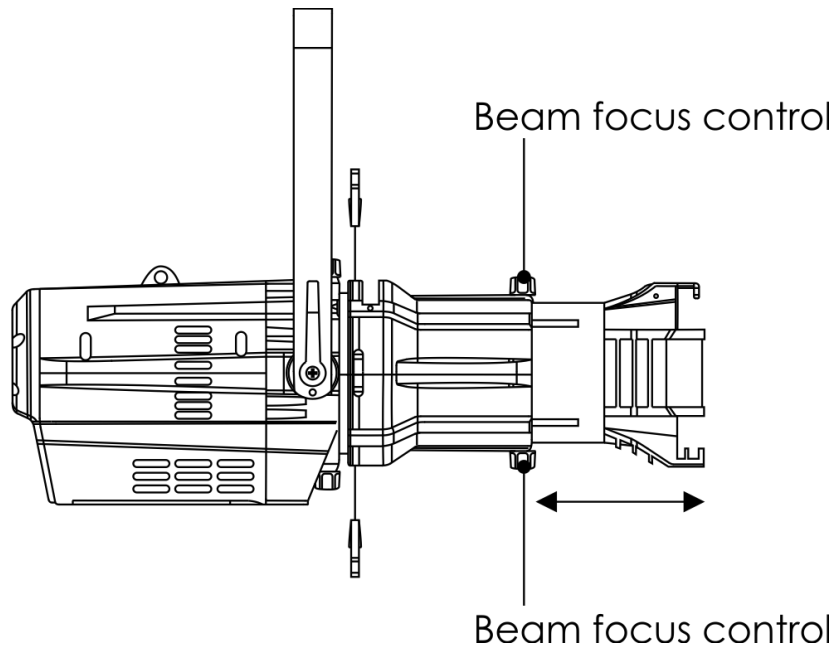

Fig. 05
- 01) Loosen the beam focus controls located under the barrel (fig. 05).